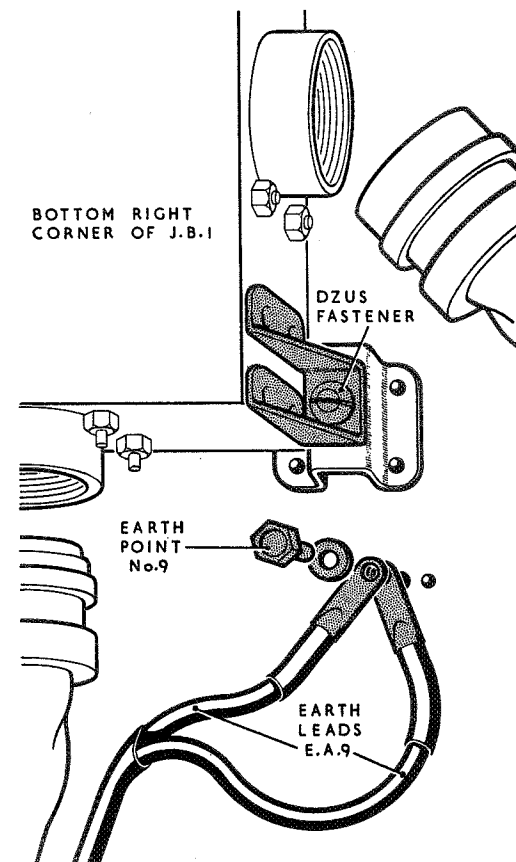

Fig.1 J.B.1 lower attachments and earth point 9
- (1) Render the aircraft electrically safe, as described in Group A.1,
- (2) Open the engine starter access door.
- (3) Disconnect the earth lead EA9 from point 9 located adjacent to the lower right hand corner of J.B.1. (fig.1).
- (4) Disconnect all the plugs and sockets on the cable assemblies at J.B.1. Seal off the plugs and sockets with approved caps and covers and stow the cable assemblies away from the box.
- (5) Release the two Dzus fasteners at the lower corners of the box (fig.1) and